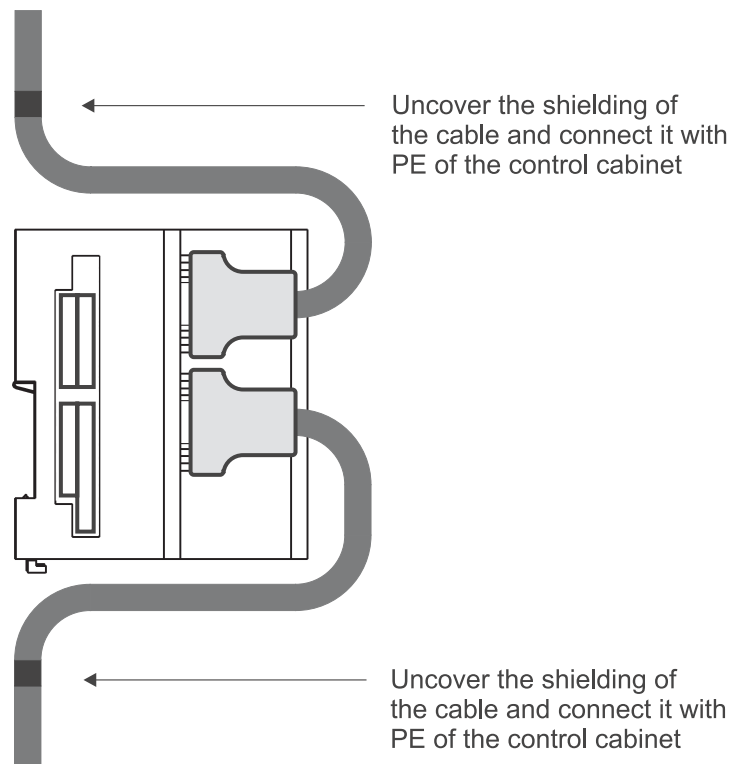

Figure 16: Cable routing
- Lay the connecting lines as stipulated in ►Figure 16◀. First the shielding of the cable must be uncovered. The length of the uncovered shielding should correspond to the width of the cable clamp. The cable is fastened with the clamp so that the shielding and the PE of the control cabinet are connected electrically.